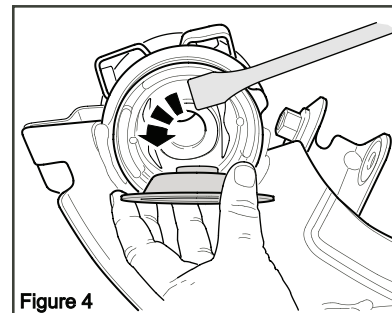

Figure 4
**NOTE:** This may also be knocked off using a suitable hammer with minimal force. (Figure 4).